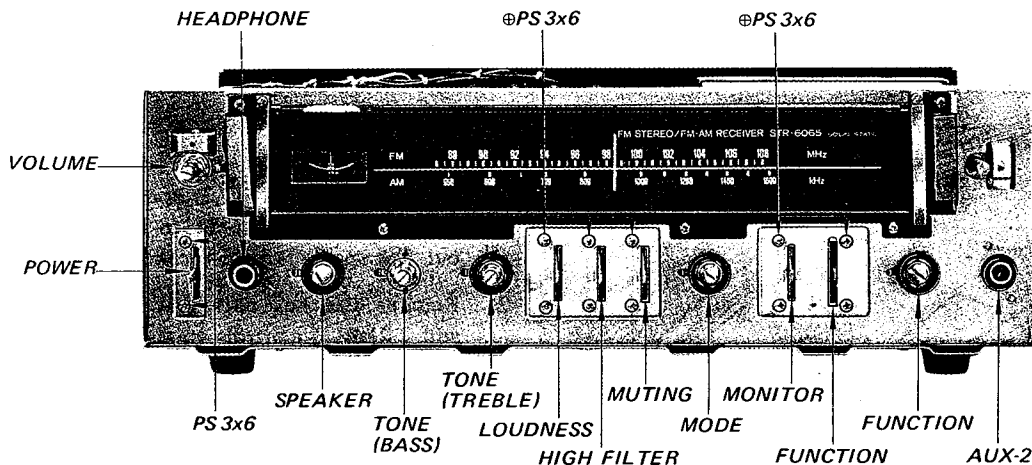

Fig. 2-16. Control and switch replacement
Prepare for replacing any of the controls or switches by removing the wooden case as described in Procedures 2-3 and 2-4. Refer to Fig. 2-16.
1. Remove the two screws ( $\text{PS } 3 \times 6$ ) securing switches to the front subchassis as shown in Fig. 2-16.
*SPEAKER, MODE, FUNCTION (1) Switches*
2. Remove the hex nuts that secure the switches to the front-subchassis as shown in Fig. 2-16.